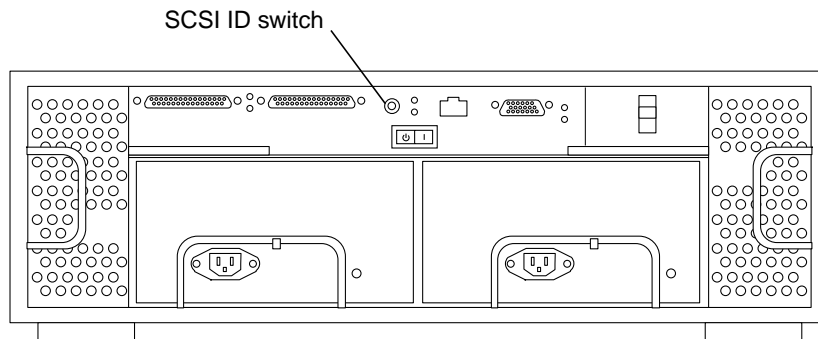

FIGURE 3-5 Netra st A1000 Rear View
2. At the rear of the Netra st A1000 system, locate the SCSI ID switch (FIGURE 3-5).